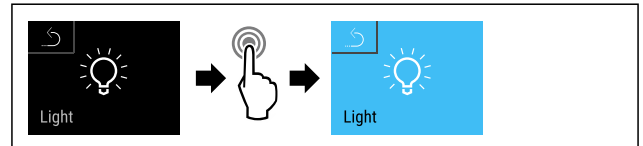

Fig. 70
- ▶ Complete steps (see Fig. 70).